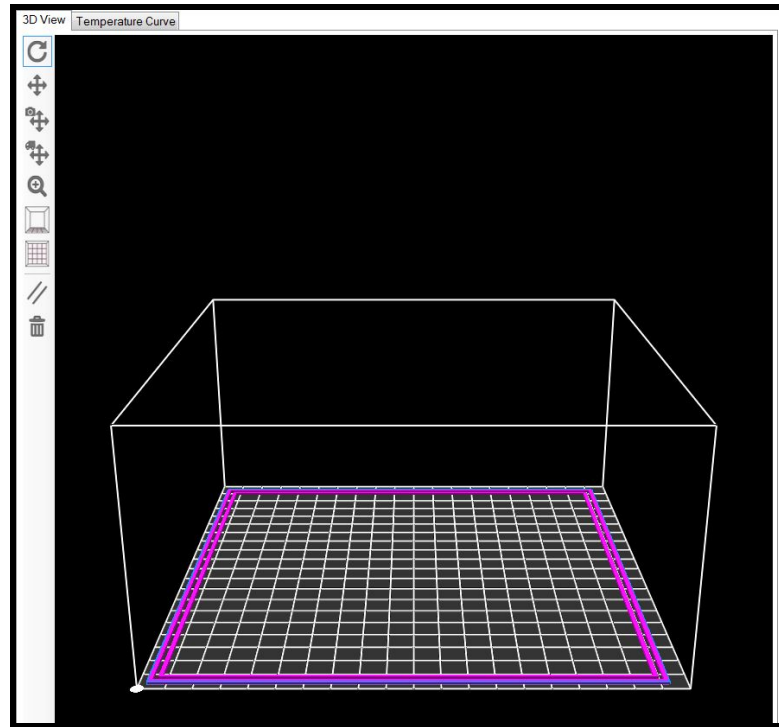

Figure 3.1: 3D View of BedLevel.stl Part
31. Navigate to the folder where **BedLevel.stl** is saved, click on it, and then click "Open" at the bottom right-hand corner of the window. The part should now be in the 3D Viewer (see Figure 3.1).